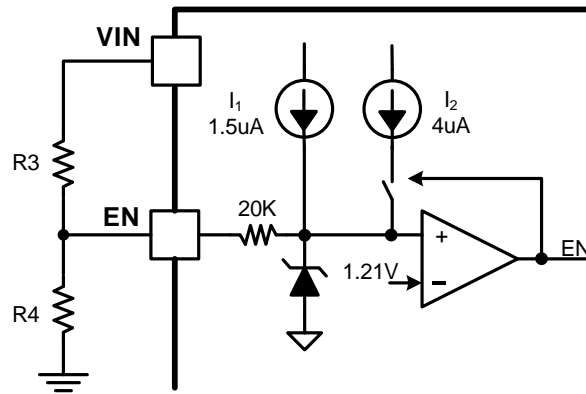

Figure 8. Adjustable VIN UVLO
An internal 1.5 $\mu$ A pull up current source connected from internal LDO power rail to EN pin guarantees that floating EN pin automatically enables the device. For the application requiring higher VIN UVLO voltage than the default setup, there is a 4 $\mu$ A hysteresis pull up current source on EN pin which configures the VIN UVLO voltage with an off-chip resistor divider R3 and R4, shown in Figure 8. The resistor divider R3 and R4 are calculated by equation (1) and (2).